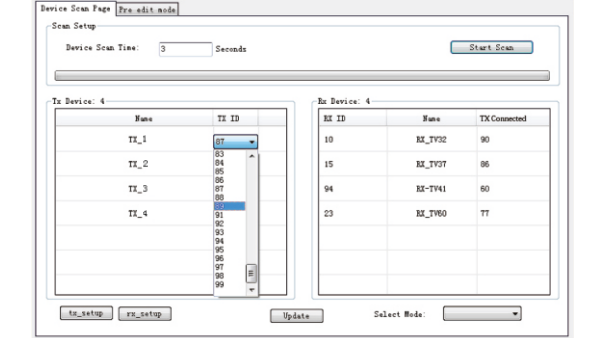

Figure 5
* Device Scan channel (TX ID) setting as Figure 5